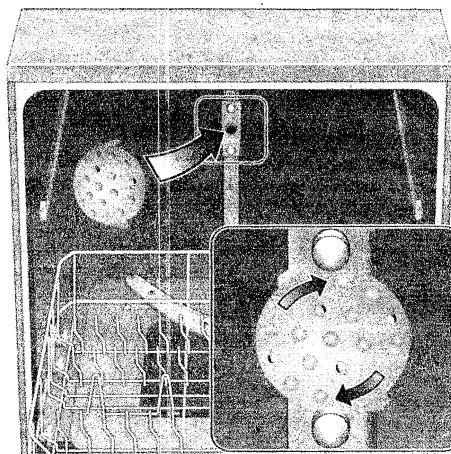

Figure 32
2. Place the "Extra Tall Item Sprinkler" over the top rack spray outlet at the back of the dishwasher tub and turn it clockwise to lock the sprinkler head in place. See Figure 32.